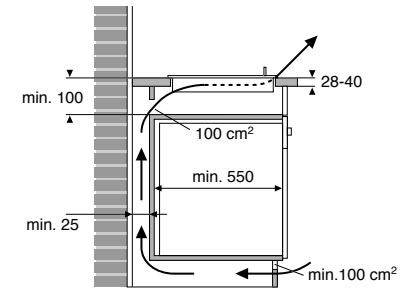

Fig. 11: In combination with an oven. Insulate oven from hob.
- To have an air inlet in the plinth measuring 100 cm² venting up behind the kitchen unit to the appliance (see fig. 11).